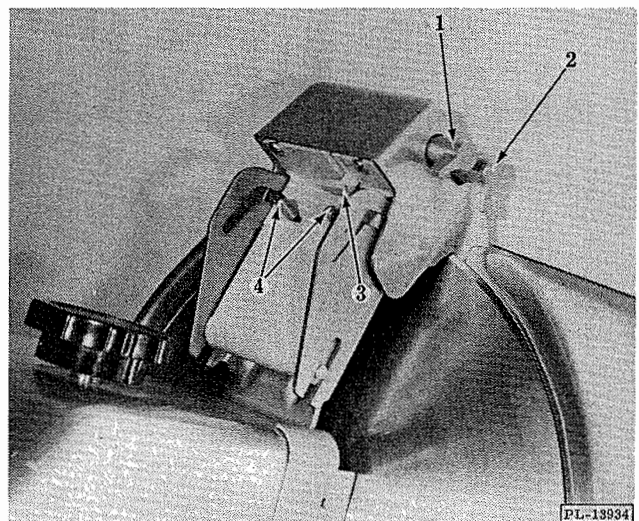

Fig. 6
7.2 Lift the sharpener by the cover up and over the knife to lock it in sharpening position (Fig. 6).
7.4 Twist handle (1, Fig. 6) on the left in a counterclockwise direction. This will bring the grinding wheel in contact with the beveled side of the knife and start the sharpening wheel rotating.
7.6 As soon as burr appears, twist handle (2, Fig. 6) on the right clockwise to true the knife. Grind and true simultaneously for approximately 3 seconds.
7.10 Return sharpener to storage position by lifting up on release button (3, Fig. 6) and lifting up and back until it drops into the storage position.
7.11 Clean sharpener by squeezing the buttons (4, Fig. 6) together and lifting it up to clear the knife. Then pull back and the sharpener will drop out of the bottom of the track. Hold sharpener upside down and wash out with running water. Replace it on slicer.